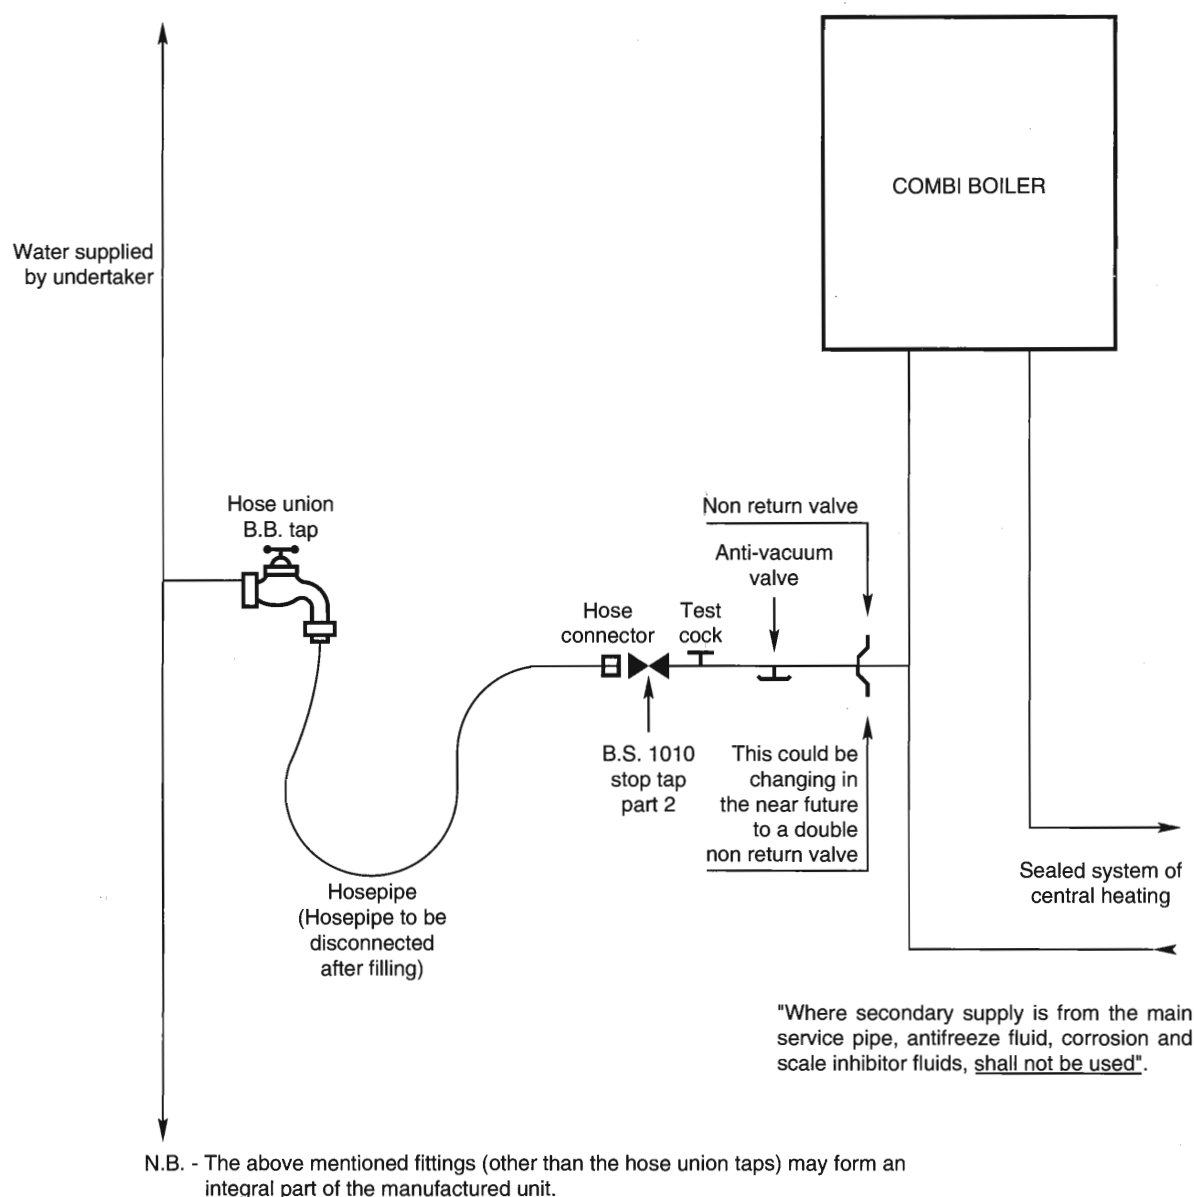

Figure 1
A direct mains water connection to sealed systems is NOT permitted by the Water Authorities: a suitable temporary filling arrangement is detailed in Figure 1 (See page 8).
5. Make-up water. Provision must be made for the replacement of water lost from the system. A suitable method is of temporary connection as shown in Figure 1, subject to local Water Authority requirements.